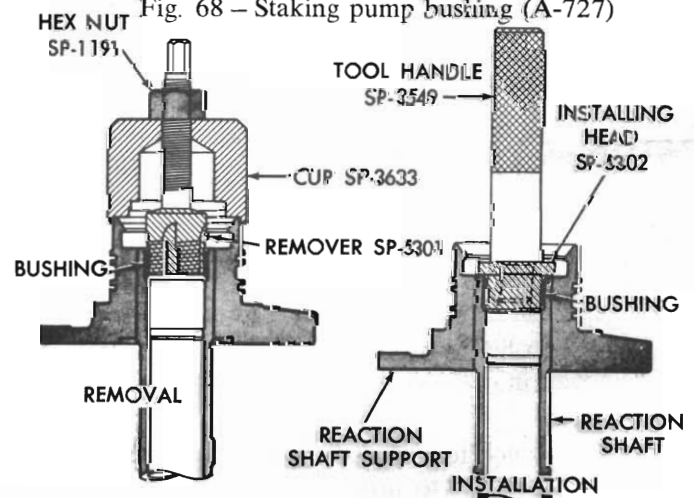

Fig. 69 - Replacing reaction shaft bushing (A-727)
(1) Assemble remover Tool SP-5301, cup Tool SP-3633, and hex nut Tool SP-1191 (Fig. 69).
(2) With cup held firmly against reaction shaft, thread remover into bushing as far as possible by hand.
(3) Use a wrench to screw remover into bushing 3 to 4 additional turns to firmly engage threads in the bushing.
(4) Turn hex nut down against the cup to pull bushing from reaction shaft. Thoroughly clean reaction shaft to remove chips made by remover threads.
(5) Lightly grip bushing in a vice or with pliers and back tool out of the bushing. Be careful not to damage threads on bushing remover.
(6) Slide a new bushing (chamfered end first) on installing head Tool SP-5302, and start them in the bore of reaction shaft (Fig. 69).
(7) Support reaction shaft upright on a clean smooth surface and install handle Tool SP-3549 in installing head. Drive bushing into shaft until tool bottoms.
(8) Thoroughly clean reaction shaft support assembly before installation.